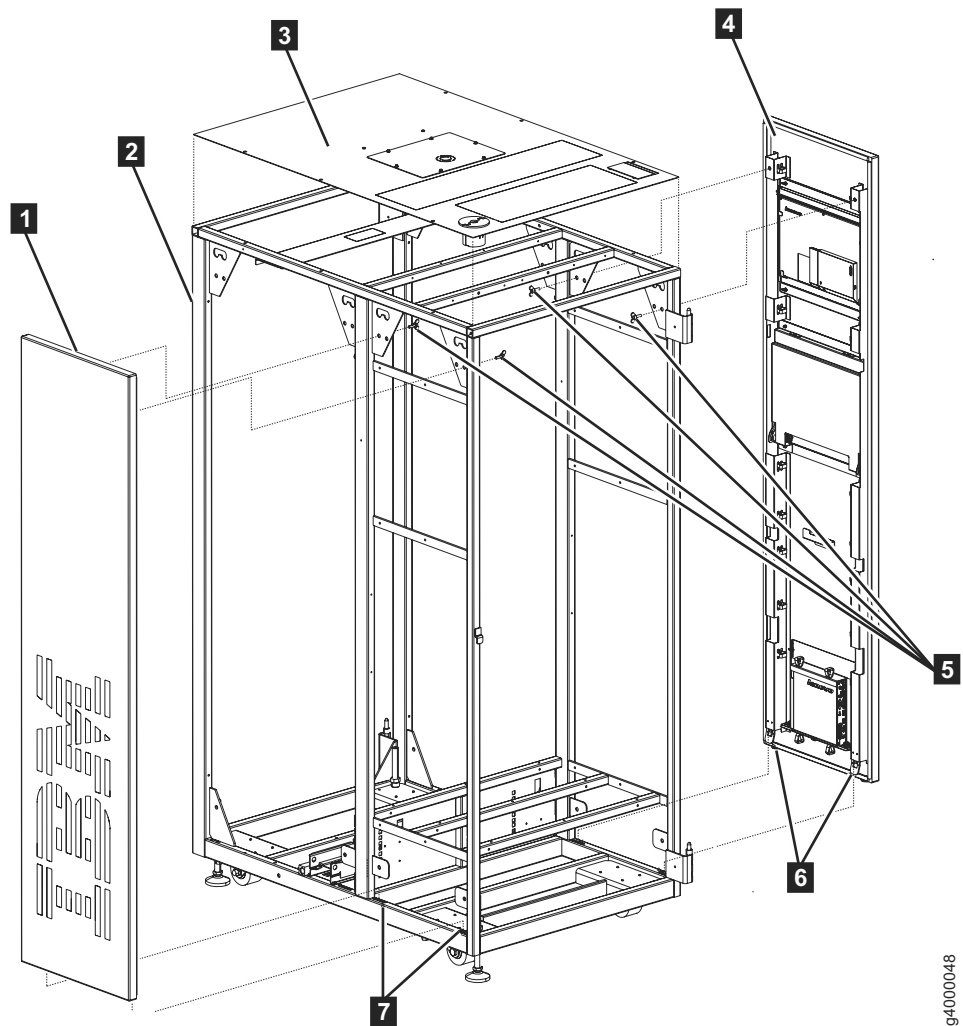

Figure 3. Side panels on an Lx5 frame
- 5. Remove both side panels, using the instructions below. Removing the non-IMC side panel is not required in all cases, but does provide easier access and visibility during the installation of the base frame. Refer to Figure 3 on page 15 for both procedures.
Note: The side panel tabs (**6** in Figure 3 on page 15) will keep the side panel upright against the frame. You do not need to hold the panel as you remove the wing screws.